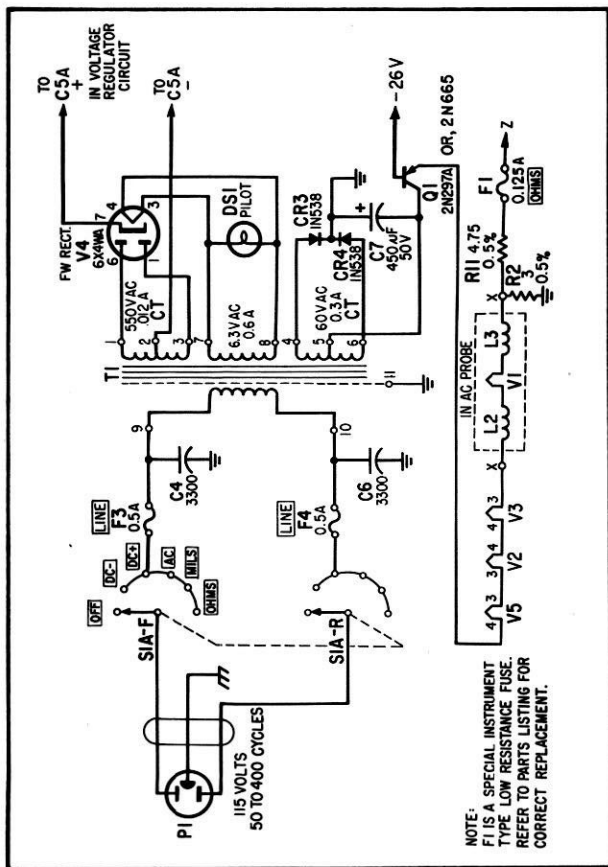

Figure 4-7. Power Supply Circuits, Schematic Diagram
f. POWER SUPPLY CIRCUIT (see figure 4-7). - The power supply is a conventional full-wave circuit. It supplies positive plate and screen potentials for tubes V2, V3 and V5. Fuses F3 and F4 are incorporated as protective measures against overloads. Capacitor C5A is a filter for the power supply. Pilot lamp DS1 is connected across the 6.3 filament winding of V4. Another winding on the secondary supplies the regulated heater voltage. This voltage is rectified by diodes CR3 and CR4, (full-wave rectification) and applied to transistor Q1. Transistor Q1 is connected as an emitter-follower and acts as a voltage